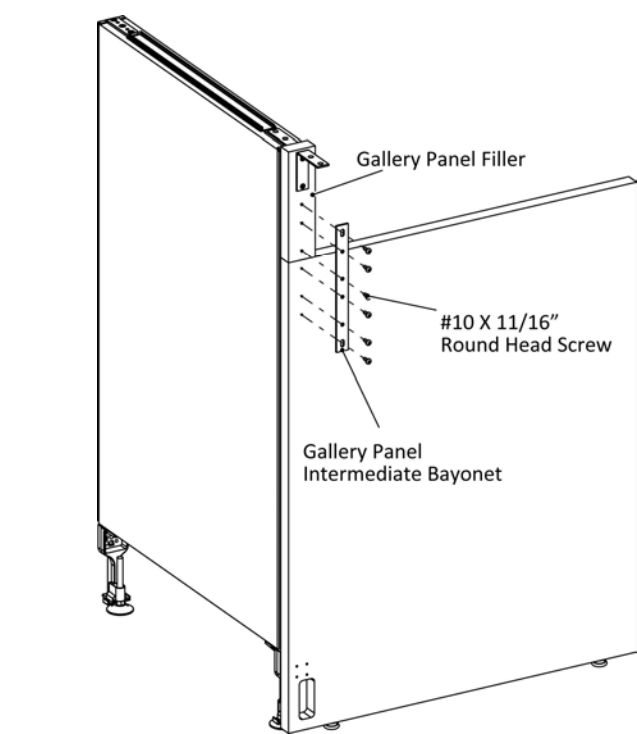

Figure 5
9. Position and align the holes in gallery panel intermediate bayonet to pre-drilled holes in gallery panel filler and gallery panel, (Figure 5).